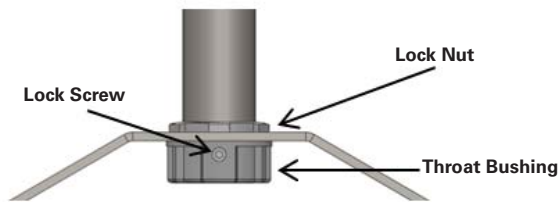

Figure 3
2. Thread the lock nut onto the appropriate ¾" NPT conduit all the way up the threads (see Figure 3).
3. Place the luminaire onto the conduit using the hole located in the center of the pendant mount bracket. Install the throat bushing and tighten to 42 ft.-lbs. Rotate the luminaire to the proper alignment before securely tightening the lock nut (hand tight plus a quarter turn). Tighten lock screw in the throat bushing to 9 in.-lbs. (see Figure 3).